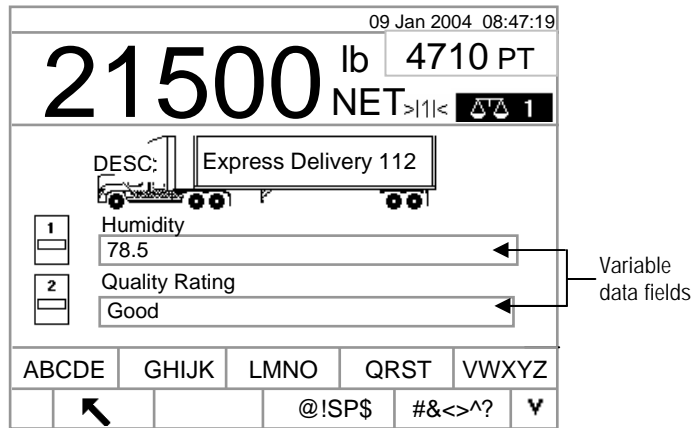

Figure 2-12: Variable Data Entry Screen
- If variable data entry is enabled in setup, variable data fields display. For example, in Figure 2-12 Humidity is enabled as Variable 1 and Quality Rating as Variable 2. Use the alpha keys and the numeric keypad to enter variable data.